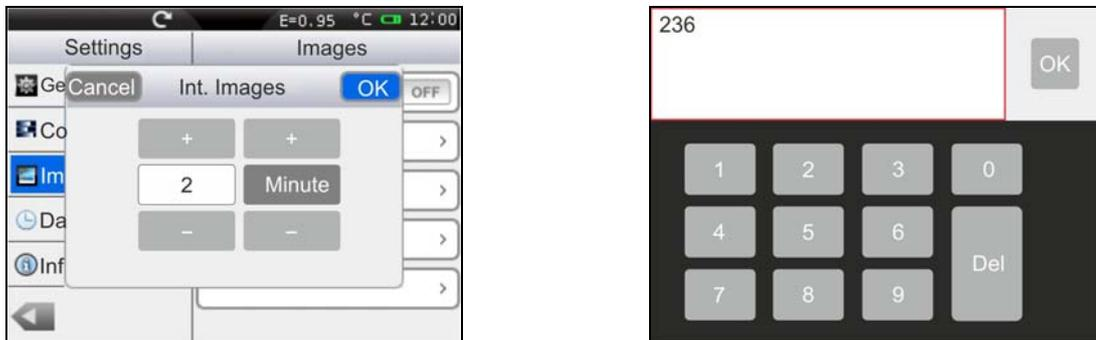

Fig. 18: Setting the image saving time
2. Touch the keys “+” or “-” to define both the numerical value of time with a resolution of 1 unit and the choice of “Hours”, “Minutes” or “Seconds”. By touching the numerical value field, the instrument automatically opens a virtual keyboard (see Fig. 18 – Right side) in which it is possible to quickly enter any value. Confirm with “OK” on the keyboard the desired value.